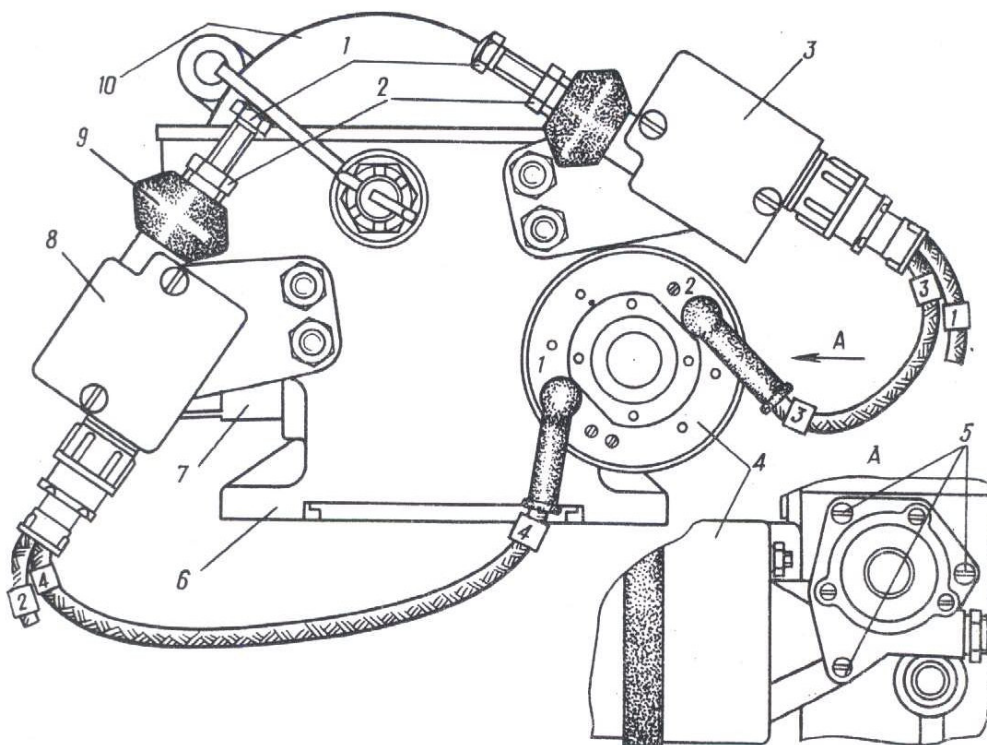

FIG. 90. INSTALLATION OF LIMIT SWITCHES OF AIR INLET AND AIR OUTLET DOORS ELECTRIC CONTROL
Secured on housing 6 (Fig. 90) is control motor 4 and two limit switches 8 and 3. Limit switch 8 disconnects control motor 4 when the doors are fully shut and limit switch 3 disconnects the motor when the doors are fully open.
1. If the wires of the control motor or the limit switch connectors were disconnected, check whether they are connected properly according to their marking prior to switching-on of the control (see Fig. 90).